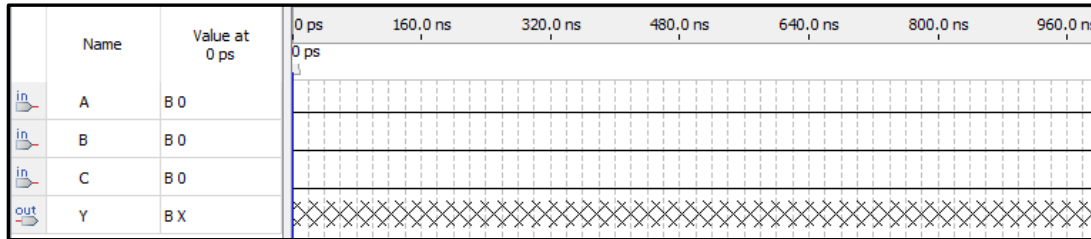

Figure 7: Vwf with inputs and outputs
- You should now see the inputs and outputs in the vector waveform file window. Save this file. The window should look like Figure 7.